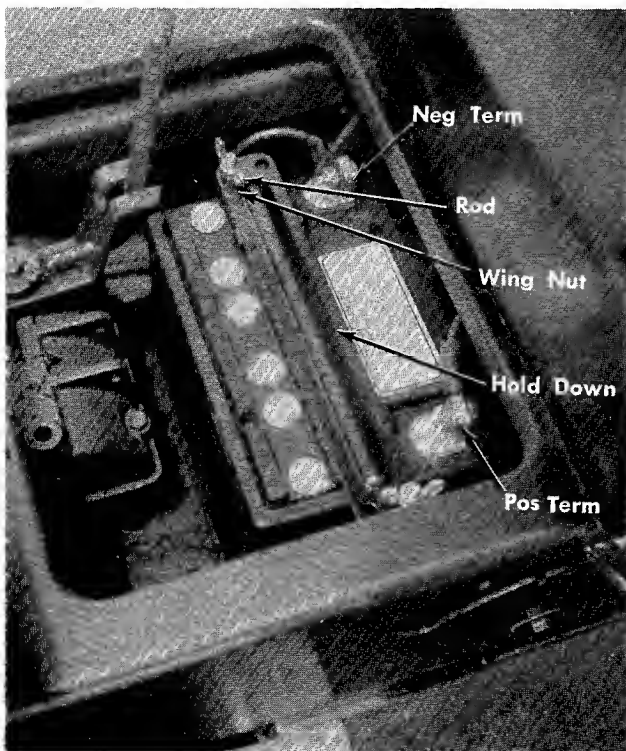

FIGURE 6.
4. Hook the hold down rods under the battery case and place the hold down over the manifold of the battery as shown in figure 6.